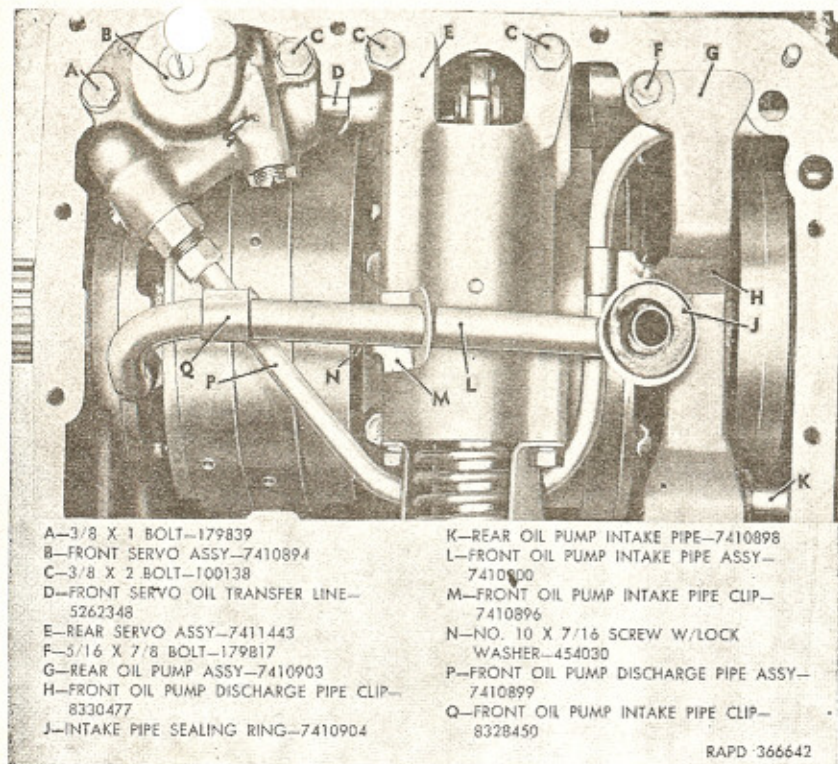

Figure 36. Transmission oil pan removed (303M).
Note. The capitalized key letters shown below in parentheses refer to figure 36.
a. Remove two bolts (F, figs. 36 and 39) which attach rear oil pump and governor assembly to transmission case.
b. On 303M transmission only, remove rear oil pump intake pipe (K, fig. 36) by pulling from rear of transmission case. Remove and discard intake pipe O-ring gaskets from pipe.